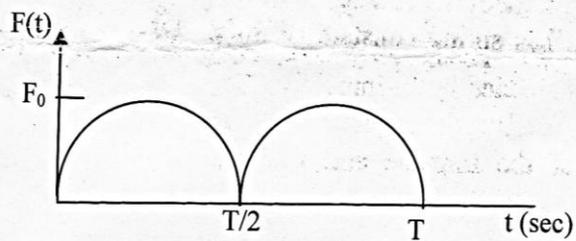

Fig.3
**Q.4 (a)** A single spring mass system has spring constant of 2500 N/m and mass of 25 kg. If it is loaded by a periodical load for which a single period is as shown in the Figure 3, derive the equation of the response using Fourier series. 07